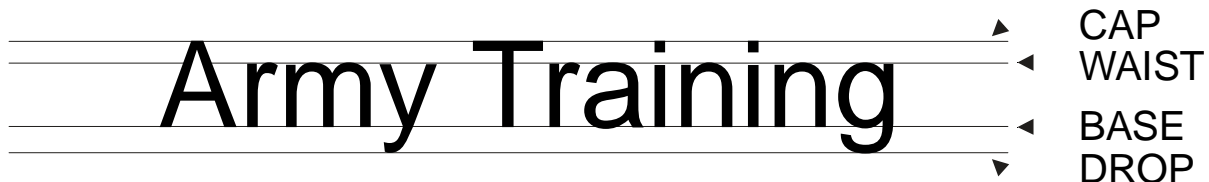

Figure D-4. Four guidelines for lettering.
c. The cap line (top), the waistline (middle), the baseline (bottom), and the drop line (below the baseline) are the four guidelines for lettering (see Figure D-4). A vertical guide may be used in conjunction with a horizontal guide and is only used to keep a vertical slant consistent, not as a spacing guide.